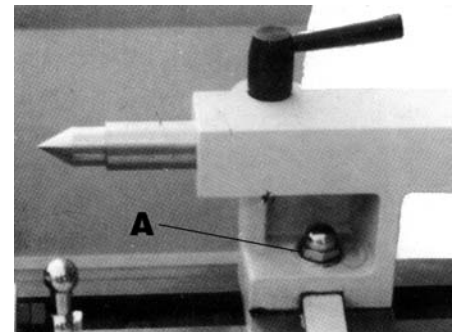

FIGURE 6
To change position or replace the tailstock, you will need to loosen the round head nut (A) as shown in Fig. 6. After having changed the position of the tailstock, make sure to retighten the round head nut.